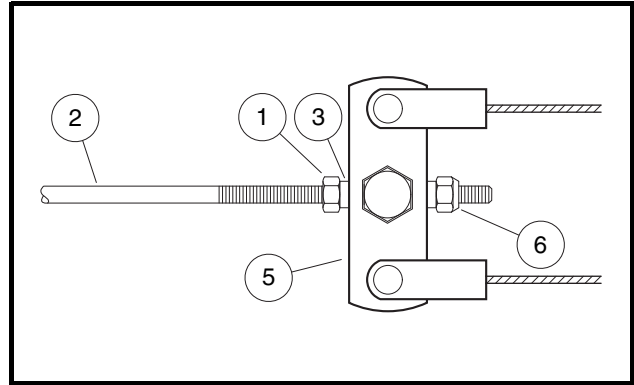

Figure 6-28 Front Equalizer Adjustment
2. **Four-wheel brake vehicles only:** Loosen the front brake equalizer rod (**Figure 6-28, Page 6-13**).
- 2.1. **Four-wheel brake vehicles only:** Tighten the nylon lock nut (6) on the front equalizer rod (2) to 35 in-lb (4 N·m) (**Figure 6-28, Page 6-13**).
- 2.4. Hold the lock nut (6) on the front equalizer rod (2) in place with a wrench and tighten the jam nut (1) to 13 ft-lb (17.6 N·m) (**Figure 6-28, Page 6-13**).
3. Loosen the equalizer retaining nuts (1 and 6) on the front equalizer rod (2) to slightly loosen the brake cable (**Figure 6-28, Page 6-13**).